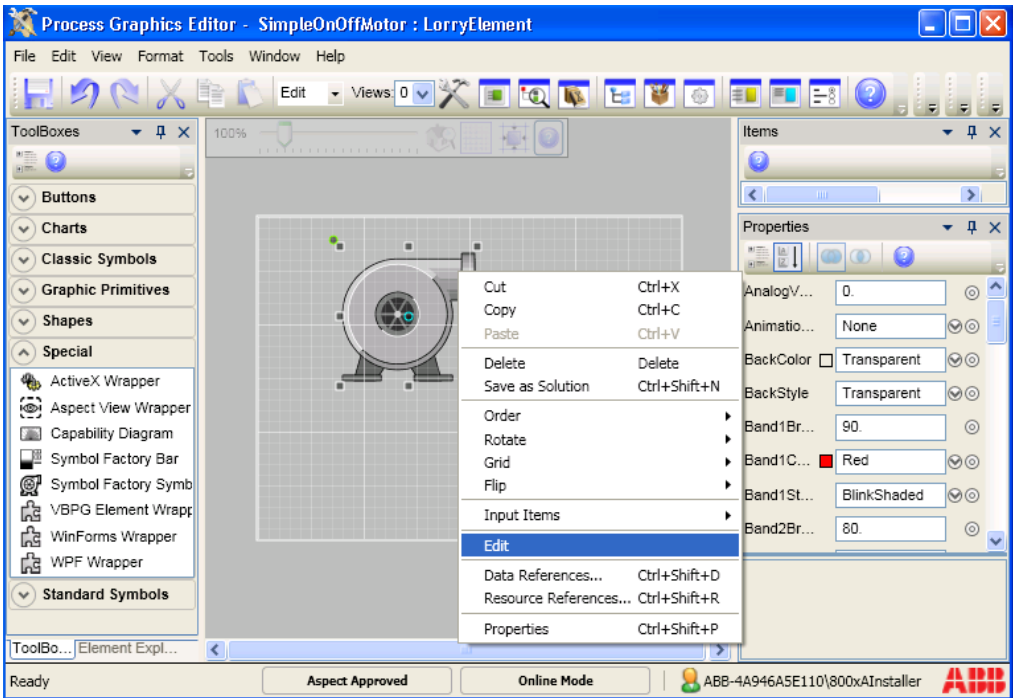

Figure 2. Editing a Symbol Factory Symbol
5. Right-click the symbol and select **Edit** from the context menu. See Figure 2.